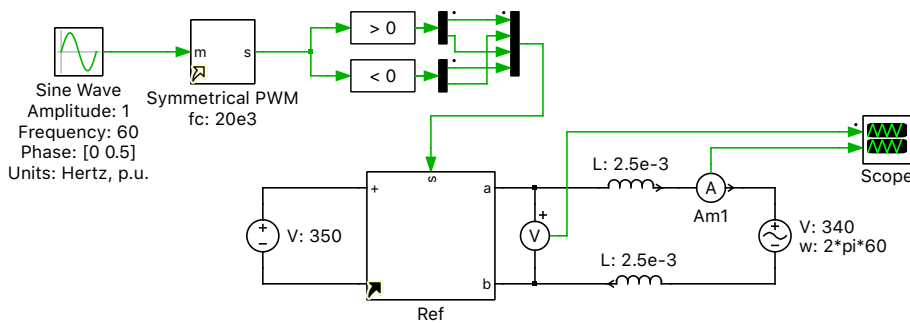

Figure 8: A circuit using the Model Reference block
- 2 Complete the circuit shown in Fig. 8, except for the subsystem labeled “Ref”; we will create a model reference for this subsystem.